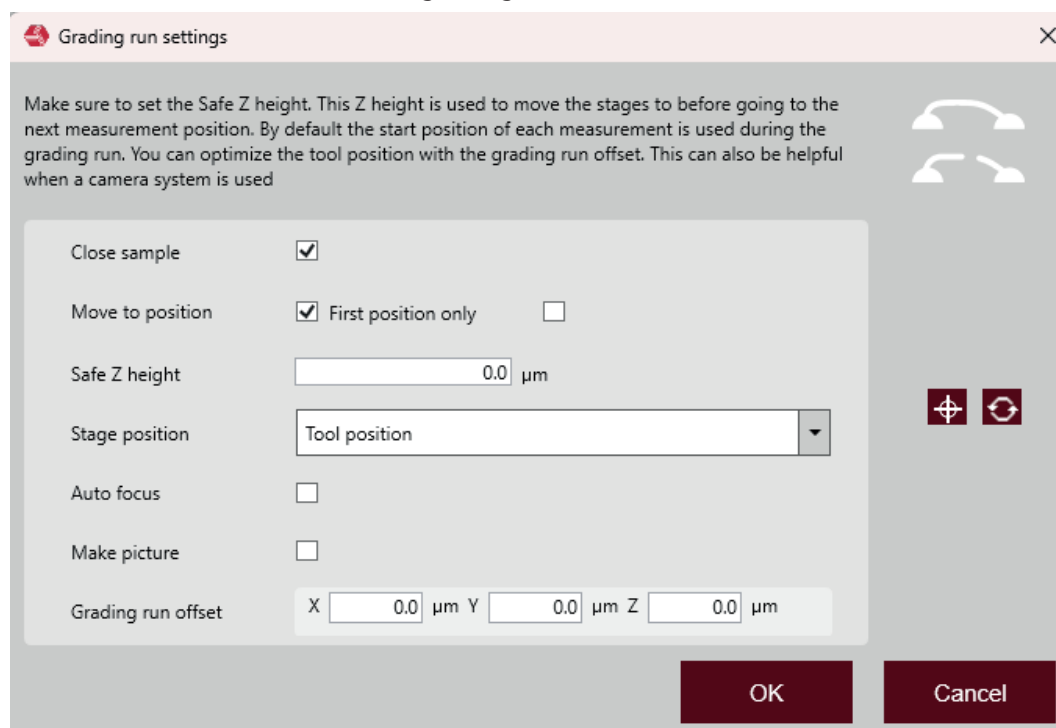

Figure 86: Grading window during grading run
**Regrade** will open the grading window (see figure 86) to change the grading for the selected measurement.